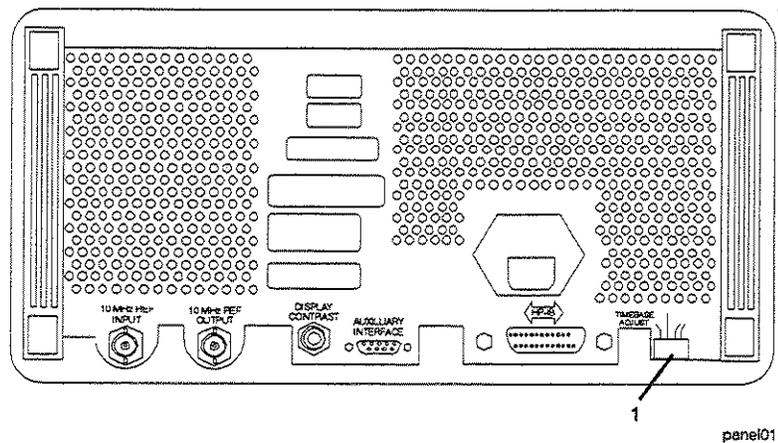

Figure 7-1. Timebase Adjust Switch Location
2. Set the rear panel TIMEBASE ADJUST switch (shown in Figure 7-1) to on (1).